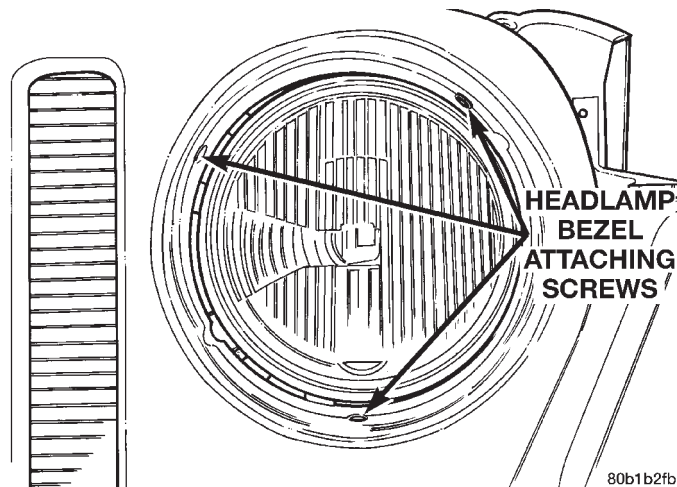

Fig. 1 Headlamp Bezel
- (1) Release the hood latches and open hood.
- (2) Disconnect the headlamp wire harness connectors.
- (3) Remove the headlamp bezel retaining screws and bezel (Fig. 1).